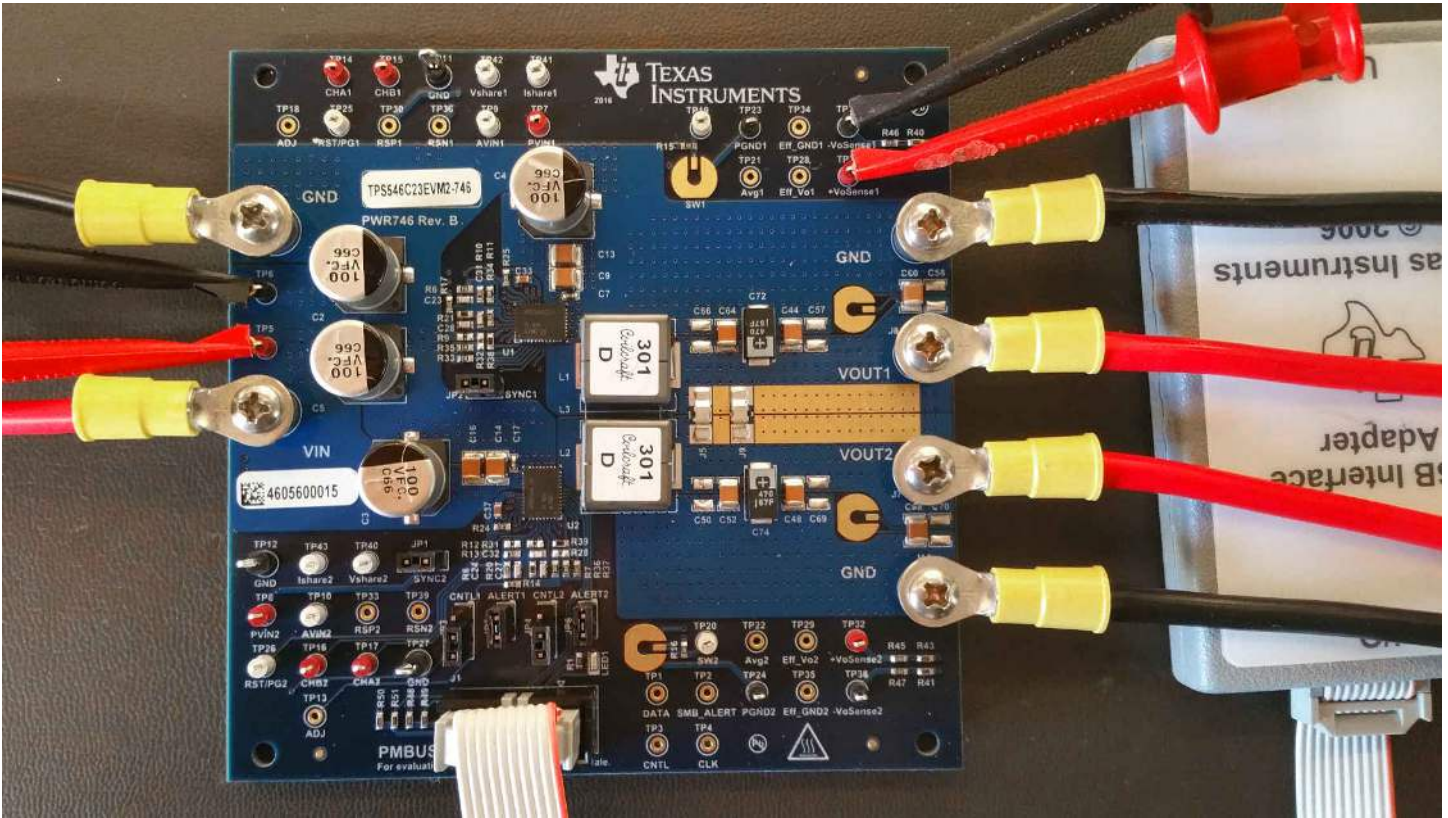

Figure 4-1. TPS546C23EVM2-746 EVM Recommended Test Setup
(1) The output current  $I_{OUT}$  can be up to 80 A, if the output overcurrent limit (IOUT\_OC\_FAULT\_LIMIT) is set to 45 A.
(2) The efficiency is measured based on Figure 4-1 and test setups, which includes power loss caused by on board copper traces.
The input voltage source  $V_{IN}$  should be a 0-V to 20-V variable DC source capable of supplying 20 ADC. Connect input VIN and GND to J2 and J3 as shown in Figure 4-1.
It is recommended to use two separate multi-meters as shown in Figure 4-1: one meter to measure  $V_{IN}$ , the other to measure  $V_{OUT}$ .
A variable electronic load is recommended for the test setup as shown in Figure 4-1. The load should be capable of 80 A.
Figure 4-1 shows the recommended test setup.